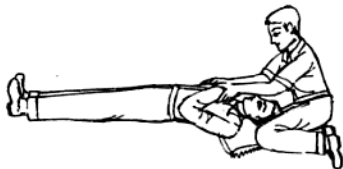

Fig. 1.4 Expiration
4. Now bring the victim's arms down on each side of his chest, pressing inward on his arms so as to compress his chest as in Fig. 1.4.